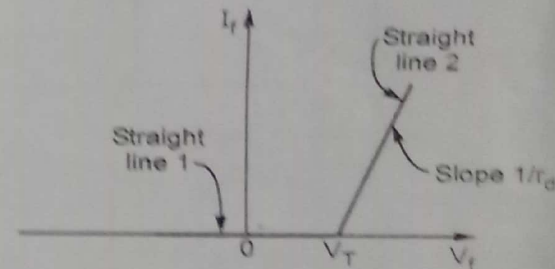

Fig. Q.9.2 Linear piecewise approximation
- Thus the approximation consists of two straight lines, one horizontal and other with slope ($1/r_d$) as shown in the Fig. Q.9.2.